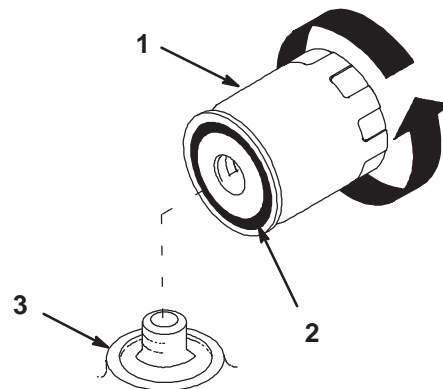

Figure 23
2. Remove the old filter and wipe the filter adapter (Fig. 23) gasket surface.
3. Apply a thin coat of new oil to the rubber gasket on the replacement filter (Fig. 23).
4. Install the replacement oil filter to the filter adapter. Turn the oil filter clockwise until the rubber gasket contacts the filter adapter, then tighten the filter an additional 1/2 turn (Fig. 23).